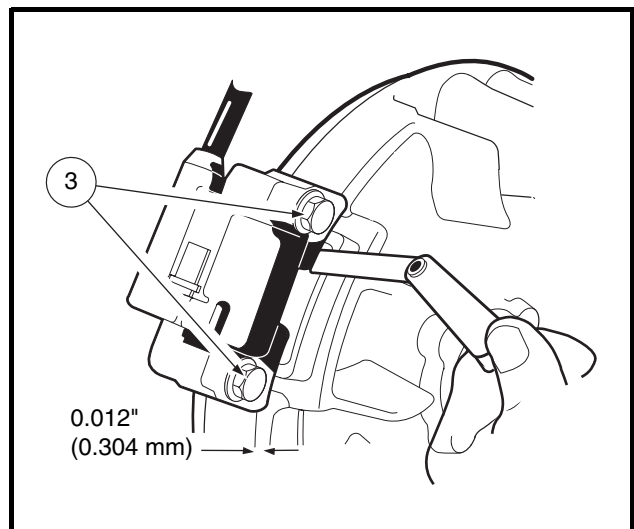

Figure 15-10 Adjust Ignition Coil Air Gap
2. While tightening the two bolts (3), use a bronze feeler gauge to adjust the ignition coil air gap to 0.012 inch (0.304 mm) (Figure 15-10, Page 15-7).